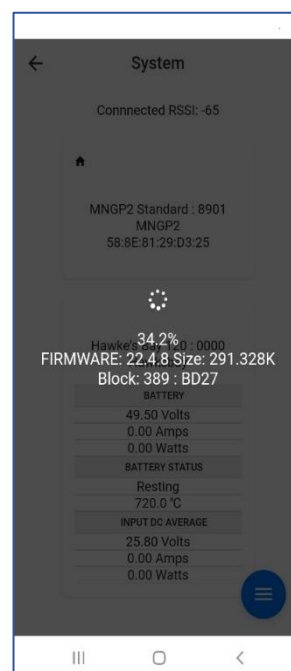

Figure 24
9. FW app will show transfer progress, **Figure 24**.